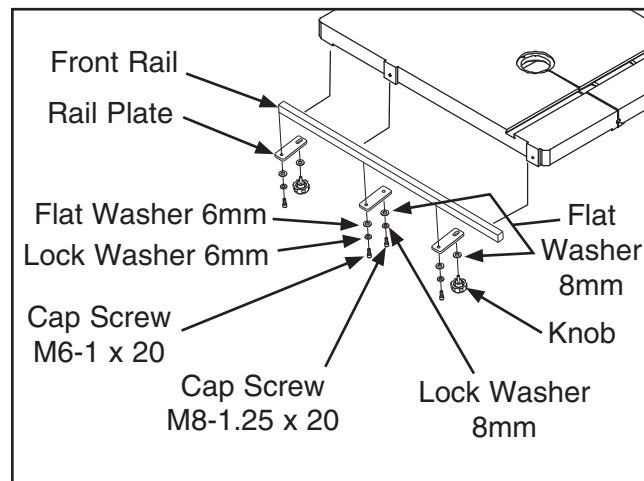

Figure 28. Installing front rail onto table.
16. Attach rail plates to front rail with (3) M6-1 x 20 cap screws, 6mm lock washers, and 6mm flat washers (see **Figure 28**).
17. Attach outer two rail plates with round, elongated mounting holes to outer part of table bottom with (2) M8-1.25 x 20 knobs and 8mm flat washers.
18. Attach remaining rail plate with round mounting holes using (1) M8-1.25 x 20 cap screw, 8mm lock washer, and 8mm flat washer (see **Figure 28**).